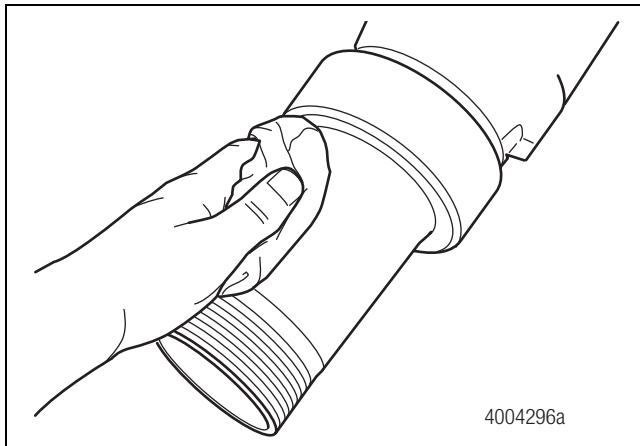
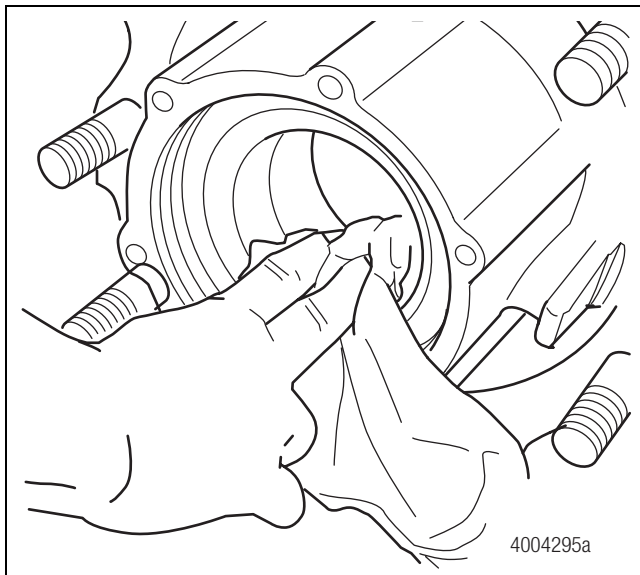

Figure 4.19
Figure 4.20
1. Clean the axle spindle and hub bore by wiping them with a clean rag. Figure 4.19 and Figure 4.20.